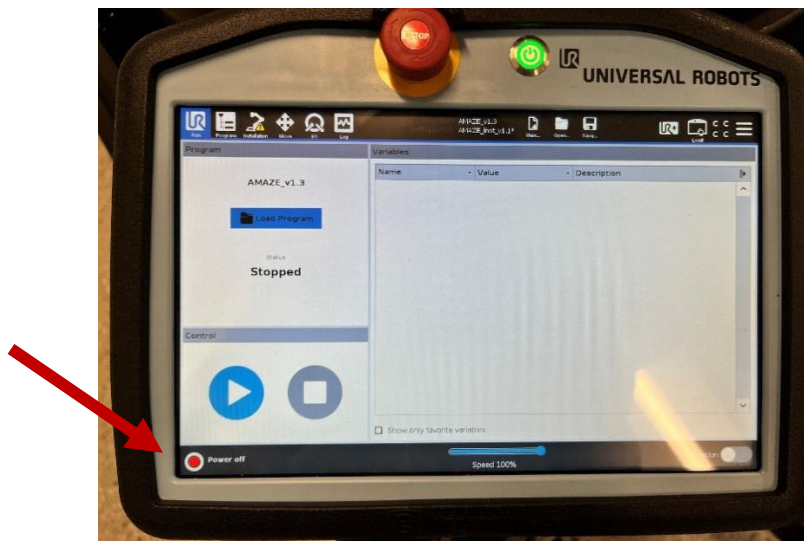

Figure 15. Starting Robot Initiation
- b. Press the POWER OFF button located on the bottom left of the robot's tablet to start the initialization process, as shown in Figure 15.